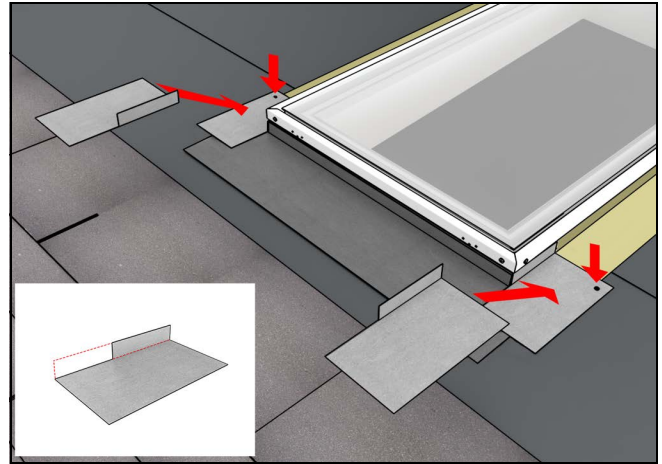

Figure 16
14. First step flashing placed a minimum of 4" beyond the sill of unit. *Note: remove material of vertical leg that extends beyond sill saddle.* See Figure 16.